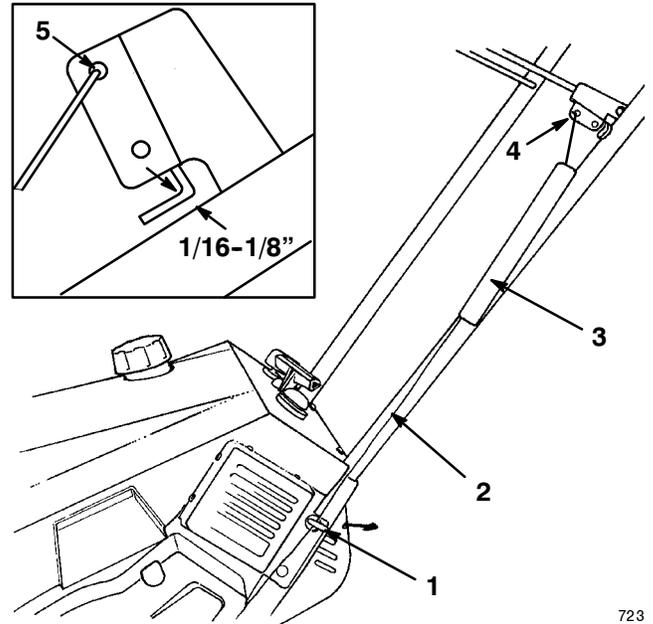

Figure 5
1. Route the control cable through the eyebolt on the left side of the snowthrower (Fig. 5).
5. Slide the spring cover over the spring and the cable adjuster (Fig. 5).
7. Hook the spring end into the top hole of the control bar bracket (Fig. 5).
8. Move the control bar back toward the handle until you remove the slack in the cable. The gap between the control bar bracket and the handle should be 1/16 to 1/8 inch. Refer to the insert in Figure 5. If you need to adjust the control bar, refer to *Adjusting the Control Cable* on page 12.